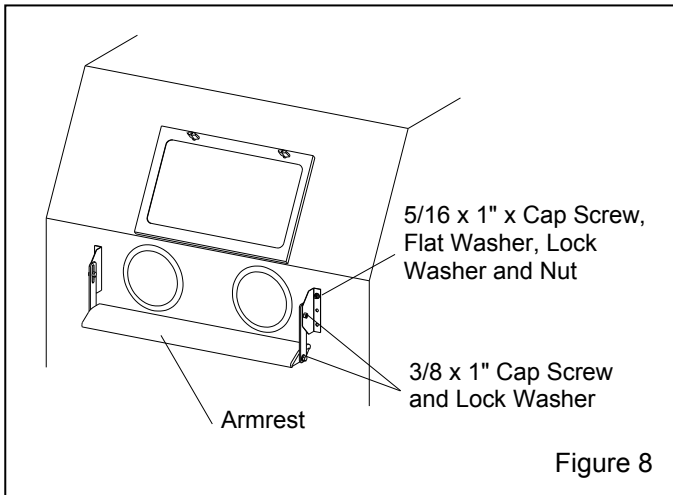

Figure 8
3.4.1 Assemble the armrest and mounting brackets as shown in Figure 8.